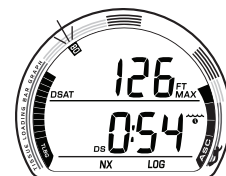

Fig. 21 - LOG DATA 3
**Log Data 3**, information includes (Fig. 21):